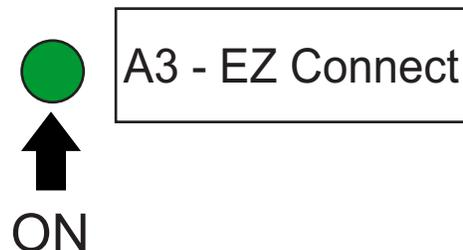

Figure 121. A3 - EZ Connect Status Indicator (ON/GREEN)
- Verify that the **A3 - EZ Connect status indicator** (Figure 121) is **ON (GREEN)**.